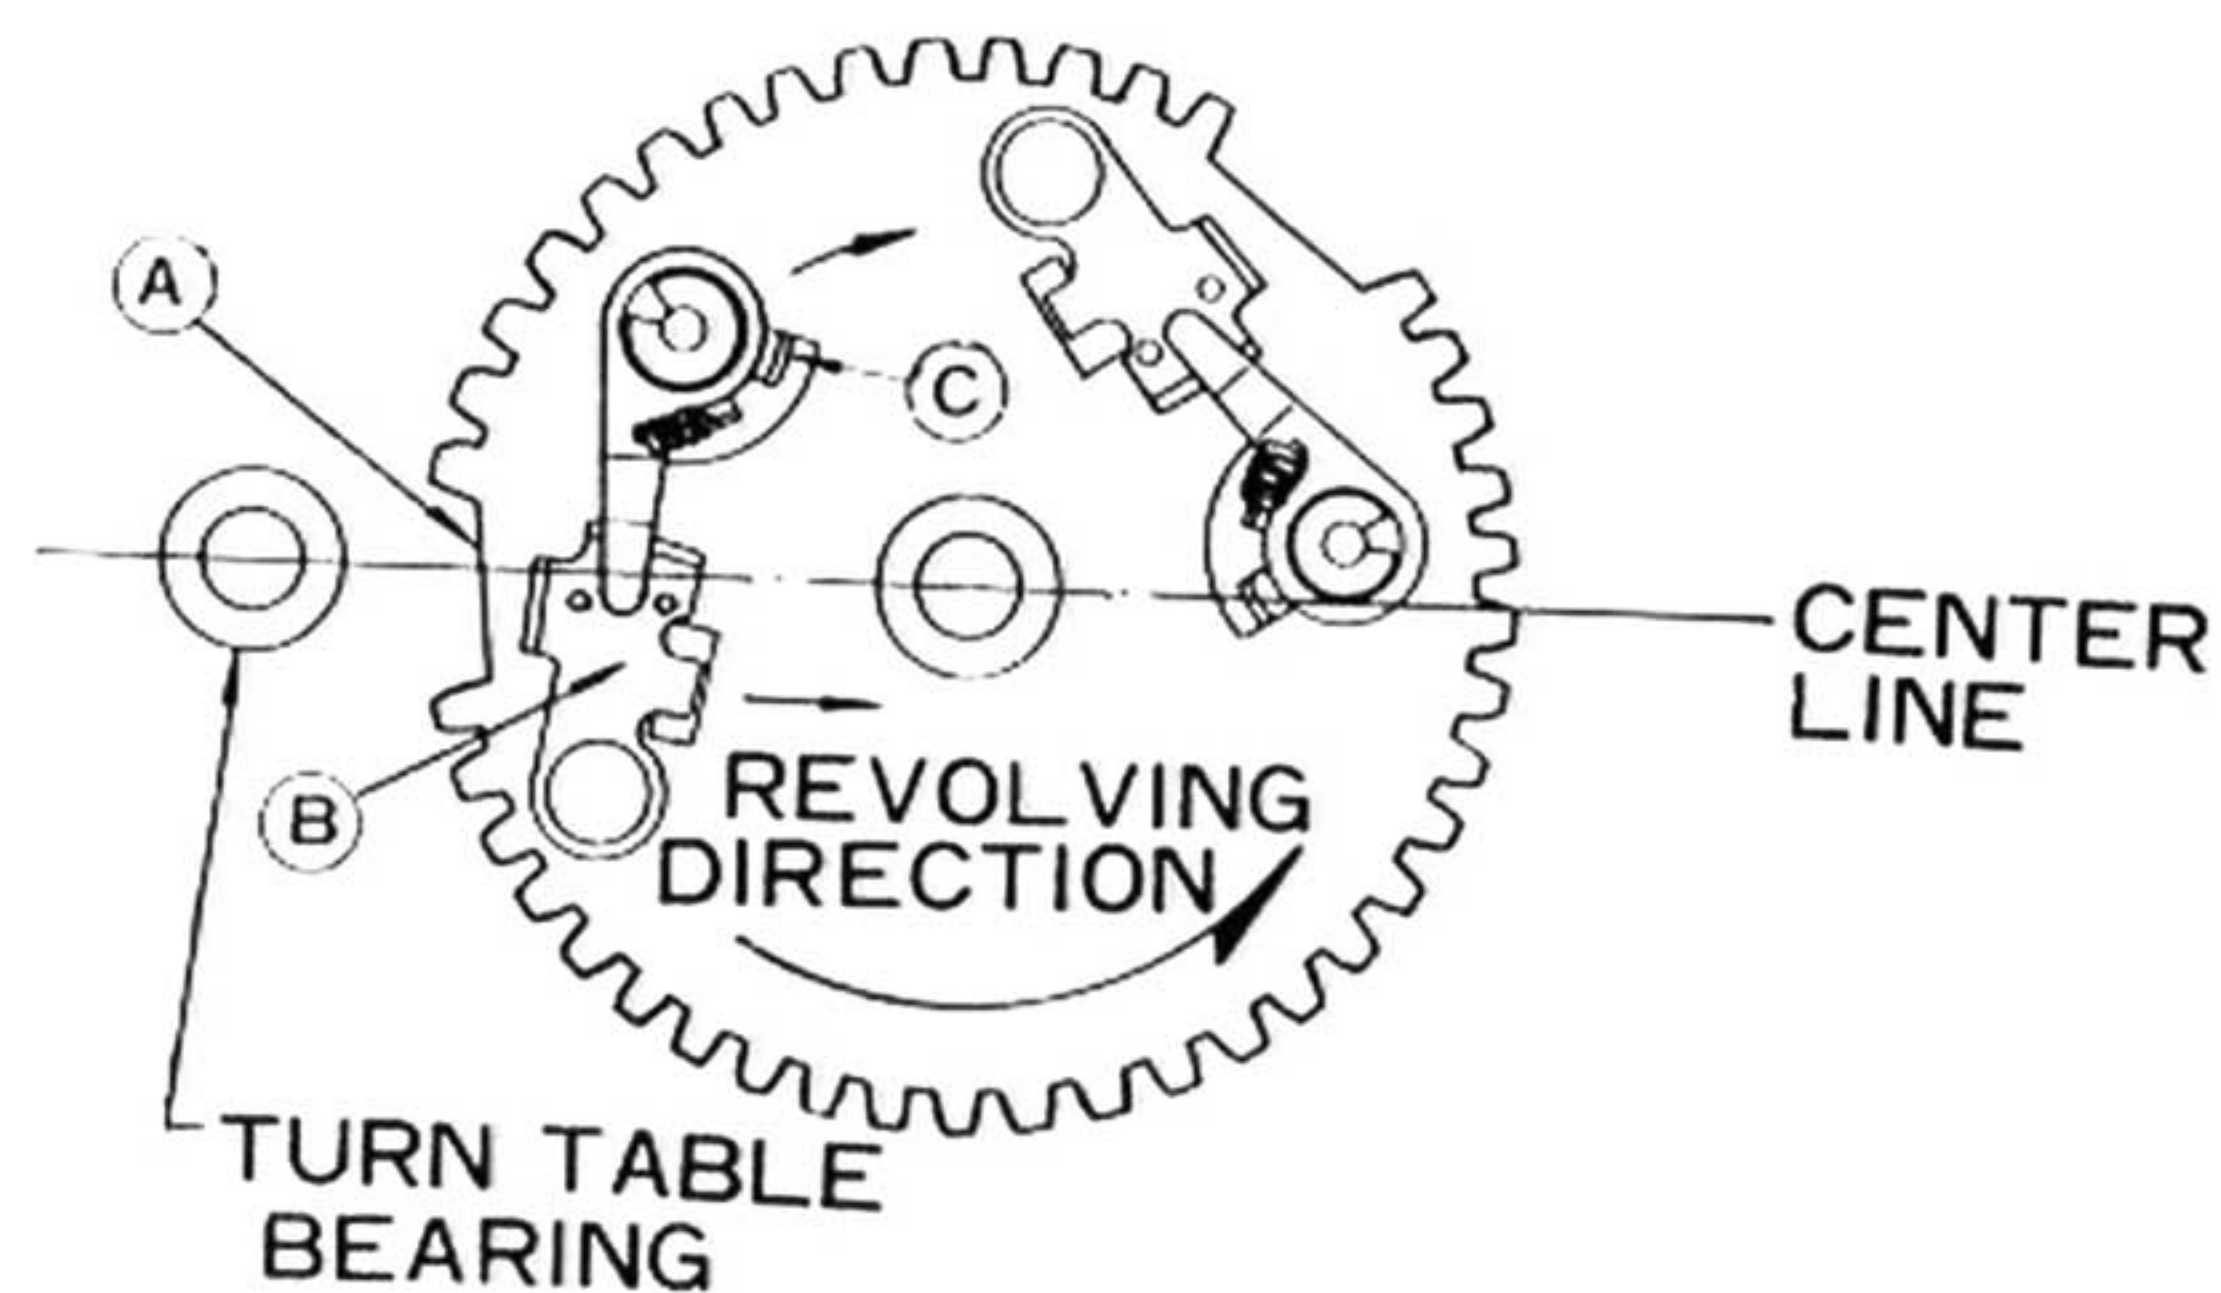

Fig. 3
(A) Confirm that the main gear position of the driving mechanism coincides with Fig. 3 Ⓐ. If not, adjust it by turning the gear counter-clockwise.